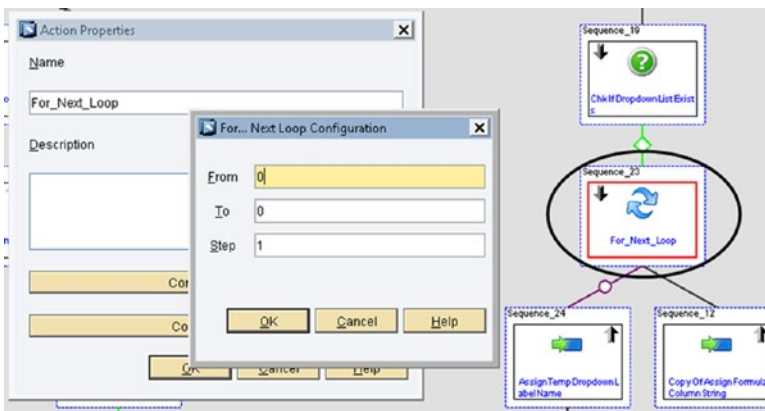

Figure 6-41. For Next Loop action block
- **For Next Loop action block:** This is used to execute a series of action blocks a specified number of times. It is similar to the `for` keyword in common programming languages. See Figure 6-41.